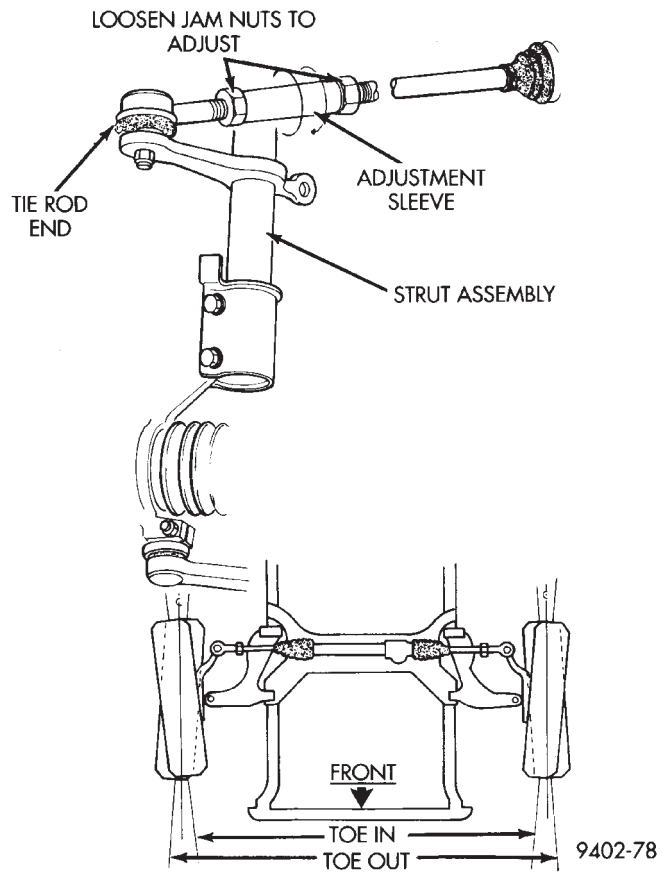

Fig. 1 Wheel Toe Adjustment
Proper vehicle wheel alignment is the proper adjustment of all interrelated front and rear suspension angles (Fig. 1). These angles are what affects the handling and steering of the vehicle when it is in motion.
- (1) Rear Wheel Toe Adjustment within specifications for both total toe and thrust angle.
- (2) Front Wheel Toe Adjustment within specifications for total toe.
- (3) **Toe** is measured in degrees or inches and is the distance that the front edges of the tires are closer (or farther apart) than the rear edges (Fig. 1). See Front Wheel Drive Specifications for correct front and rear wheel Toe specifications.
- (4) **Thrust Angle** is defined as the average of the Toe settings on each rear wheel. If this measurement is out of specification, re-adjust rear wheel Toe so that each wheel has 1/2 of the total Toe measurement. When re-adjusting, do not exceed the total Toe specification.